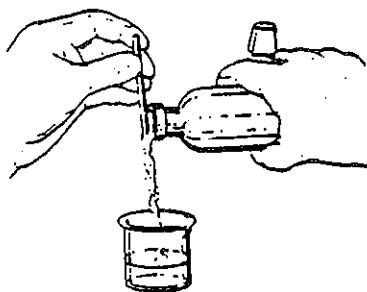

Figure 1. Pouring from a reagent bottle into a beaker.
- 3b. When you are pouring a liquid from a reagent bottle into a beaker, the reagent should be poured slowly down a glass stirring rod (Figure 1). When you are transferring a liquid from one beaker to another, you can hold the stirring rod and beaker in one hand.